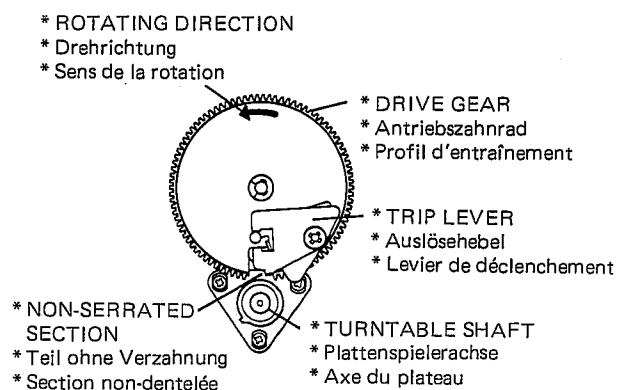

Fig. 3 / Abb. 3 / fig. 3
1. Turn drive gear until the non-serrated section faces the turntable shaft. (Fig. 3)